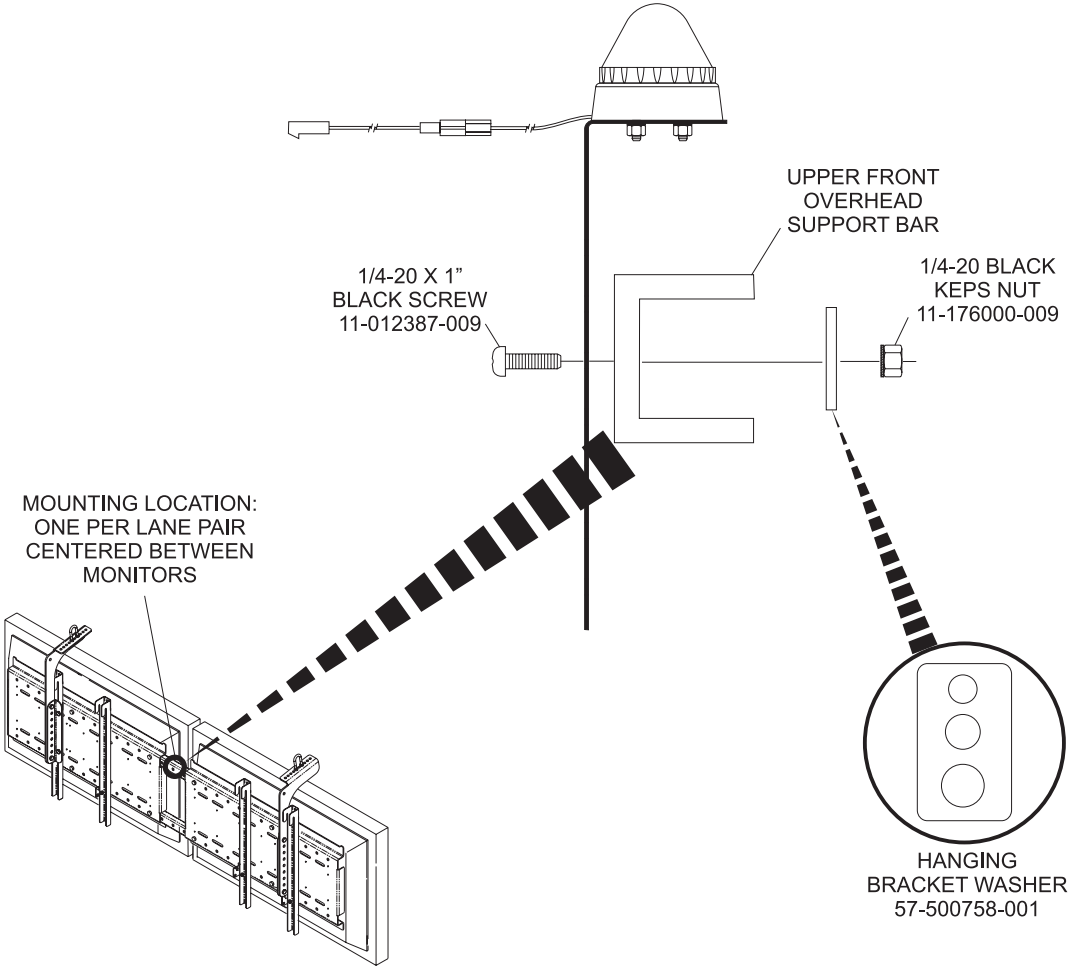

Figure 4
1. Install the service light assembly to the horizontal square bar of the overhead support weldment in the middle of the LCDs for the lane pair. Refer to Figure 4.
2. Install the 1/4"-20 x 1" black screw, the square, black washer, and the 1/4" black keps nut to secure the service light bracket to the horizontal square bar. Refer to Figure 4.